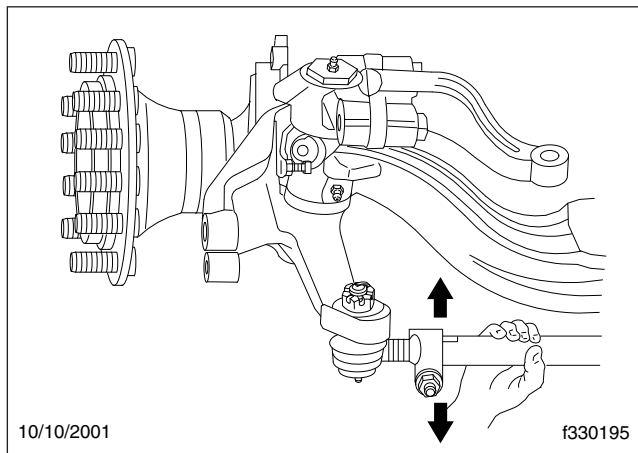

Fig. 6, Check Movement of Tie Rod End
5. Position yourself directly below the ball stud socket. Using both hands, grab the end as close to the socket as possible, no more than 6 inches (15.2 cm) from the end. Firmly apply about 100 pounds of hand pressure in an up and down motion several times. When moving the assembly, check for any movement at both tie rod ends. See **Fig. 6**.